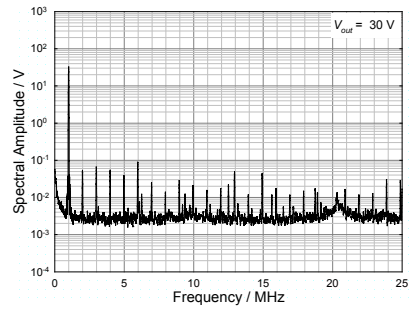

Fig. 4. Frequency spectrum of the output voltage at 30 V amplitude.
- capacitance of the dc inputs: approx. 720 nF, this consists of 220 nF between each input and the ground (capacitors C3 and C4) and 1 μ F between the inputs (capacitor C7, all in Fig. 4 in the documentation of the basic device)